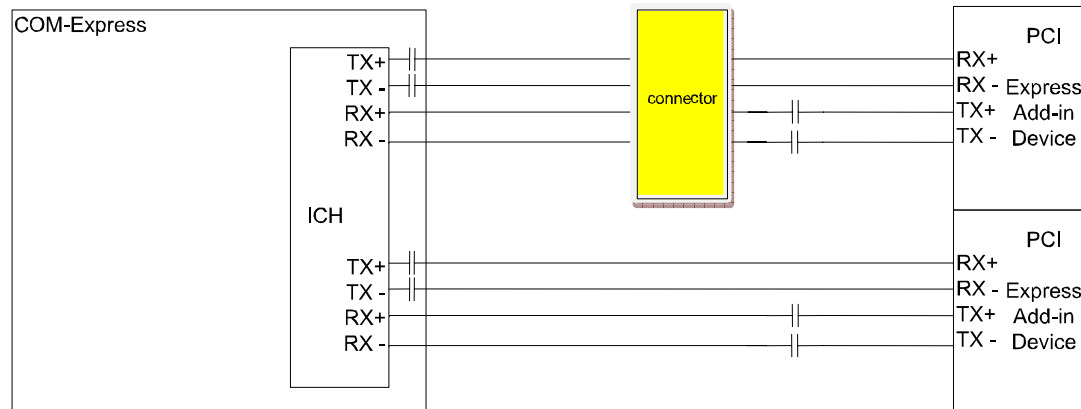
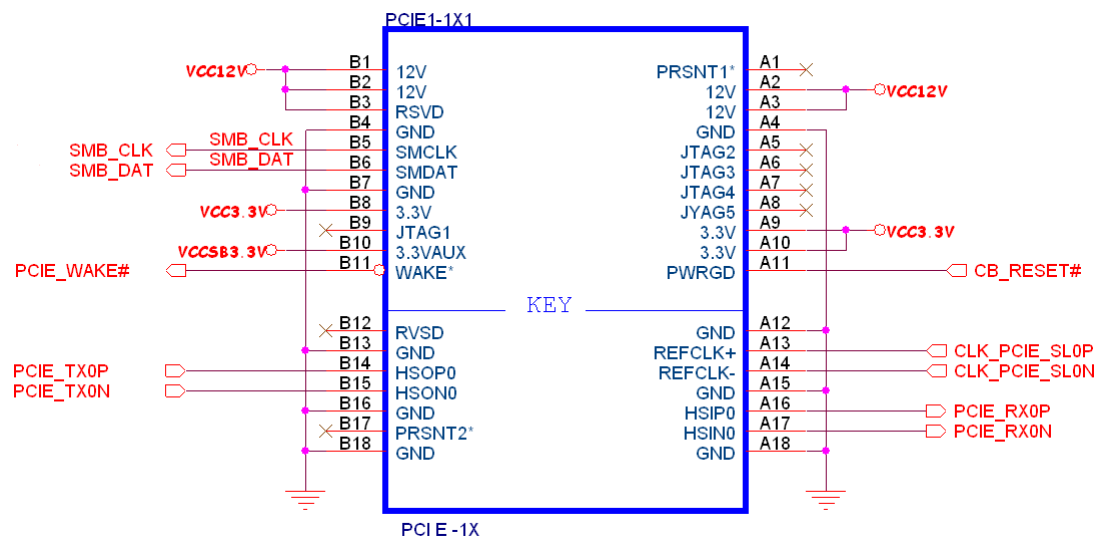

Figure 2-26 PCI Express Interconnect Example
Figure 2-27 PCI Express Connector Schematic Reference
Each PCI Express lane is AC coupled between its corresponding transmitter (TX) and receiver (RX). Figure 2-26 and Figure 2-27 shows the connection for COM-Express signals and PCI Express connector. The AC coupling capacitors of TX+/- is present on COM-Express Module. The AC coupling capacitors of RX+/- should be placed on the carrier board and closely to the transmitter pins of the PCI Express devices.